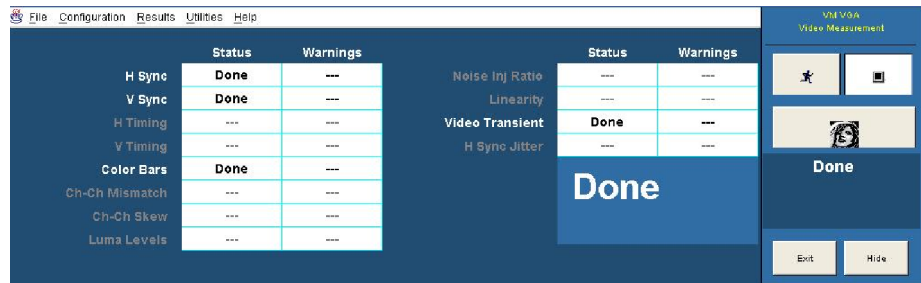

Figure 1-9: Results Summary display
10. If the VM Series System is functioning normally, the four selected measurements will be executed without any warning message(s). The results should be displayed on the corresponding result panels (for example, **Results > H Sync**). Because multiple measurements are selected, the Results Summary panel will appear. Some representative screen shots are shown in Figures 1-9 through 1-13.